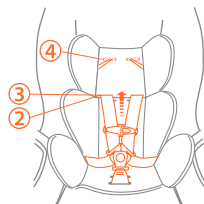

Fig. 61-1
- 4- If using harness levels 2 and 3 thread the shoulder straps above the body insert into levels 2 or 3. Strap head insert to level 4 (Fig. 61-1).